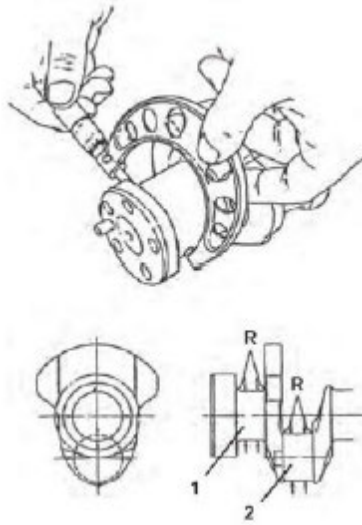

Figure 98.
4. Use a Magnaflux® to inspect the crankshaft for cracks. Replace the crankshaft if fractures are found. Measure the outside diameter of each crankpin (Figure 98, Item 2) and main bearing journal (Figure 98, Item 1). See the *Crankshaft Mechanical Specifications Chart*. Take measurements at several places around each bearing surface. If not within specification, grind the journals and install undersize bearings, or replace the crankshaft.